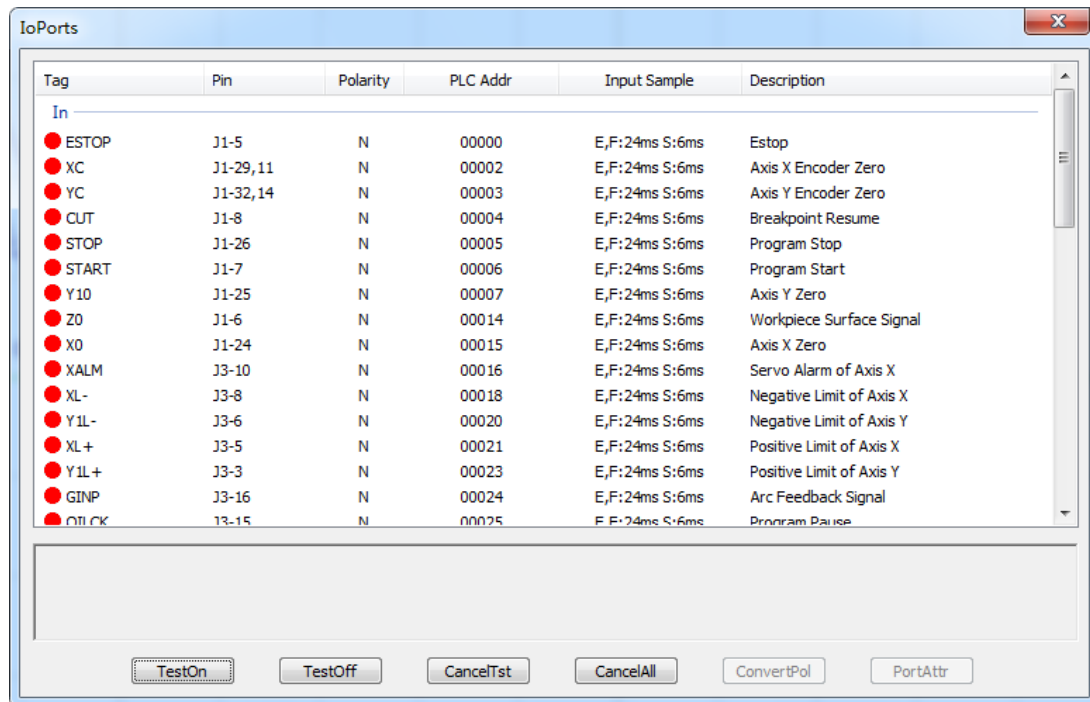

Fig. 5-1 IO ports window
- 2) Dots in red indicate the signals are invalid at the time (with no input or output), while dots in green indicate the signals are valid at the time. The "IOPorts" window is as shown in Fig. 5-1. (It is for reference only. Ports displayed in "IOPorts" window will vary with different software versions and hardware board card types. The actual situation is in line with shipment).